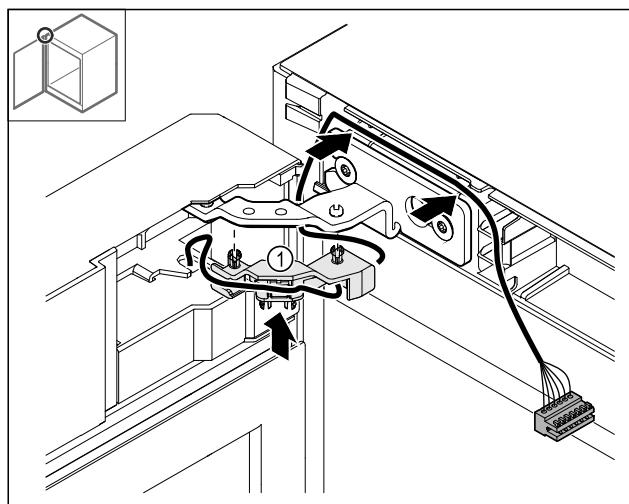

Fig. 47
- Push the cable holder Fig. 47 (1) into the hinge.